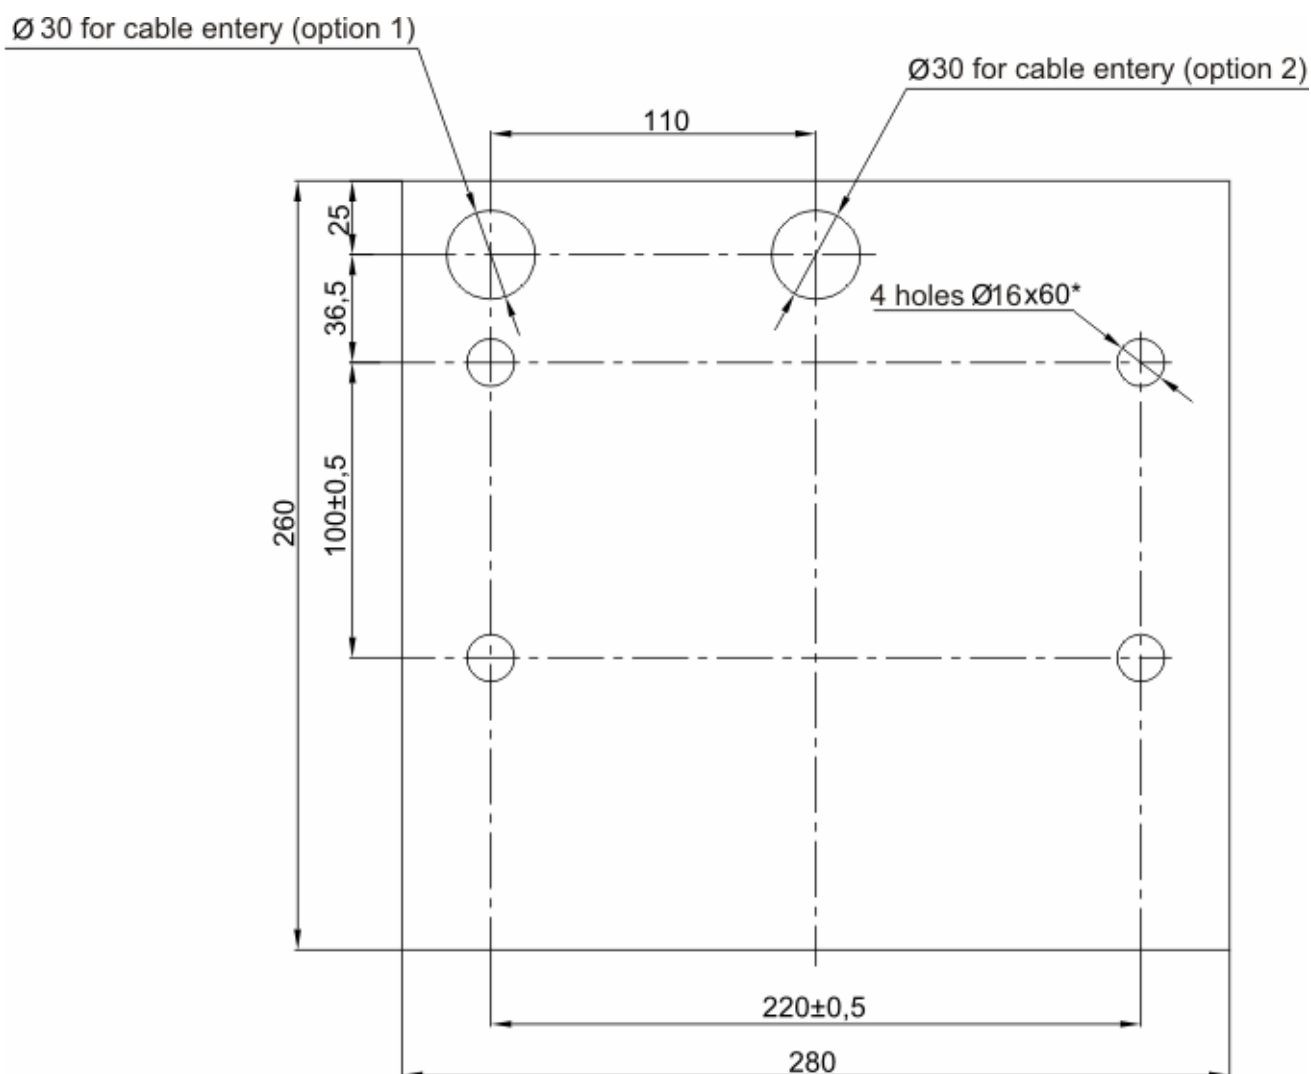

Fig. 9. Floor anchor position and cable entries for housing installation
- to mark the mounting holes according to Fig. 9;
8.4.2 Make the holes for anchor bolt (15) sleeves for the turnstile housing installation (Fig. 9).
Note! If you lay out cables under the floor surface, make an electric raceway to the cables laying zone of the turnstile housing (option 1 or 2 in Fig.9). Fix the housing after laying the cables in the electric raceway and inside the turnstile housing.